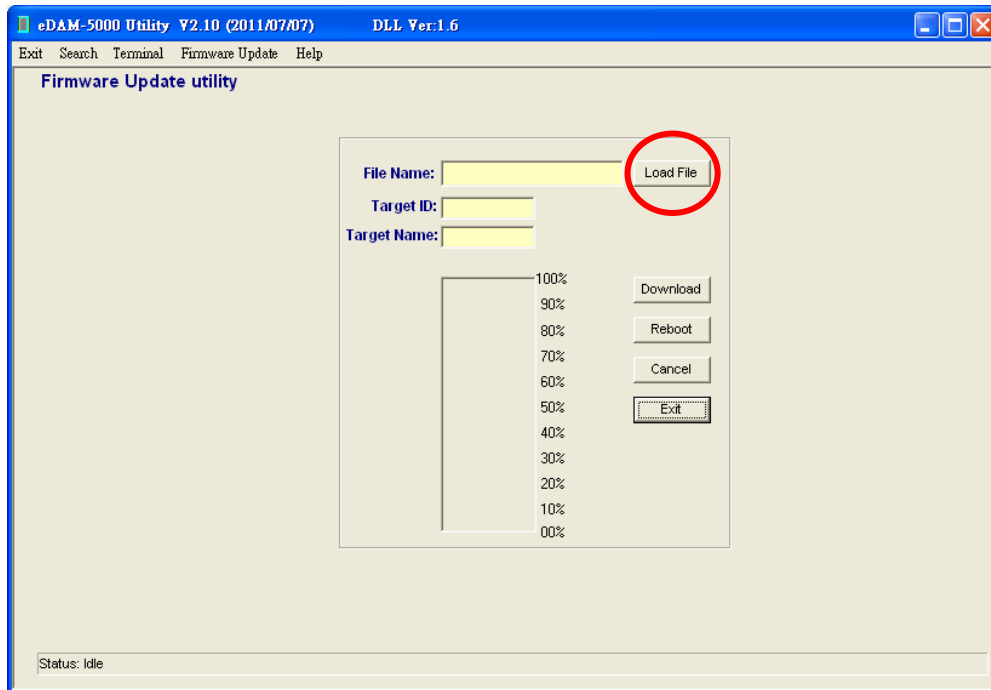

Figure 5
5. Click **“Load File”** button to load firmware file and select the firmware file you are going to update (see Figure 5 and Figure 6)